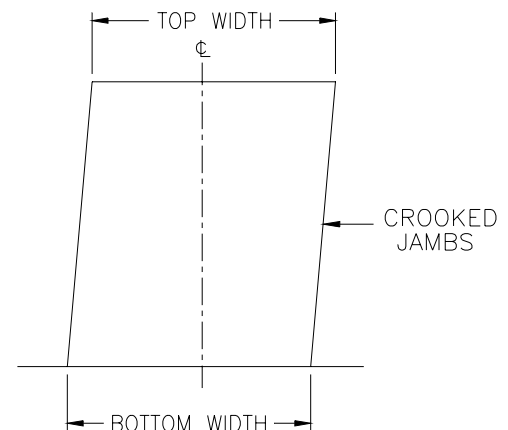

FIG. 3
- If the door jambs are crooked**, install door on the center line (Figure 3).